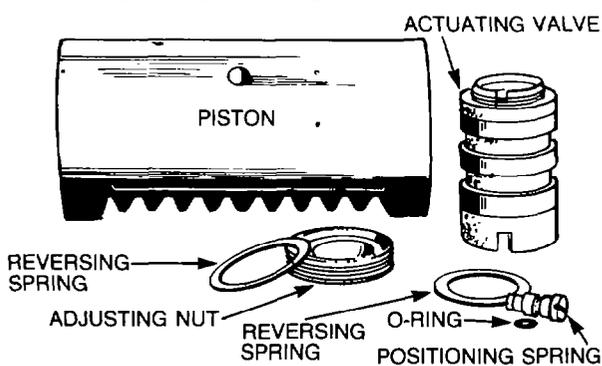

Figure 276 — Positioning Pin and Reversing Spring — Removal
- r. Remove the actuating valve positioning pin from the piston and discard the O-ring, then remove the remaining reversing springs (see Fig. 276).